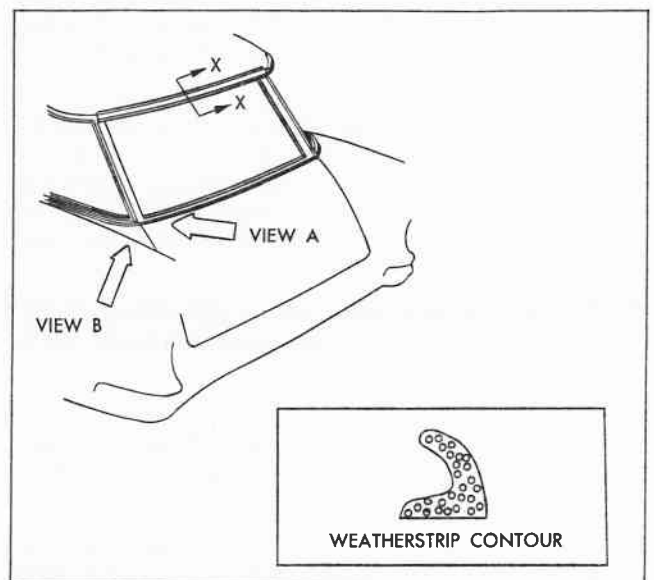

Fig. 5 Safari Lift Gate Weatherstrip Contour
- b. Check weatherstrip at each leak location. If weatherstrip is damaged, deeply creased or deformed (See inset of Fig. 5 for proper weatherstrip contour), replace with Lift Gate Weatherstrip Assembly Body Side, Part No. 4671303.